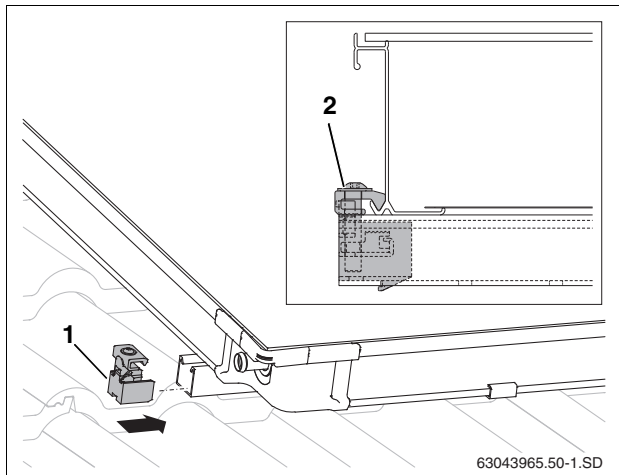

Fig. 46 Single-sided collector clamp (left)
- ▶ Push the single-sided collector clamp (Fig. 46, [1]) into all profile rails.
- ▶ Push collector clamp up against the collector frame and screw in place using size 5 Allen key (Fig. 46, [2]).